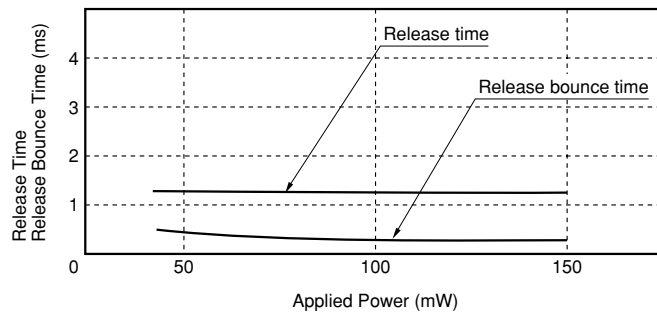

Figure 3.4 Driving Power vs. Timing
Figure 3.4 (1) shows the relations among the power applied to drive the relay, the operate time, and the bounce time. Figure 3.4 (2) shows the relations among the supplied power, the release time, and the bounce time, and Figure 3.4 (3) shows the relations among the supplied power, the release time, and the bounce time when a diode is not connected to the coil to absorb surges.
(1) Operate time
(2) Release time (with diode)
(3) Release time